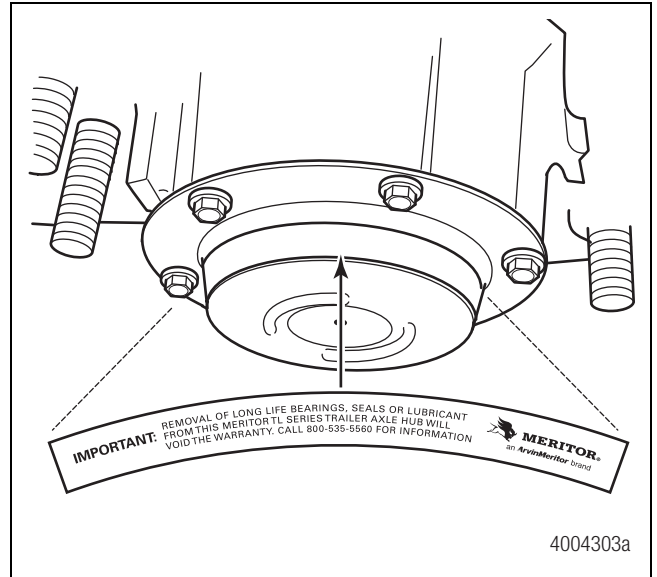

Figure 4.7
- The hubcap has a decal on the side with warranty and service information. Figure 4.7.